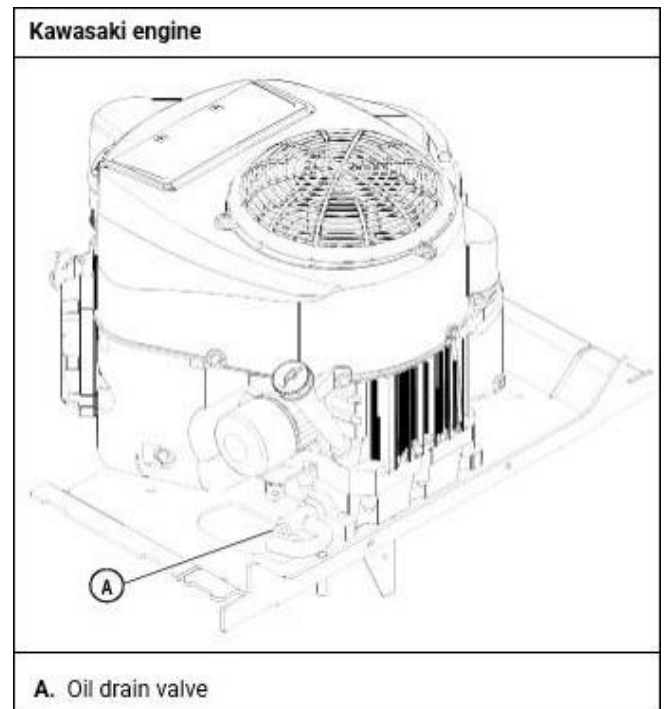

Figure 18
1. Locate the oil drain valve on the lower right side of the engine. [Figure 18]